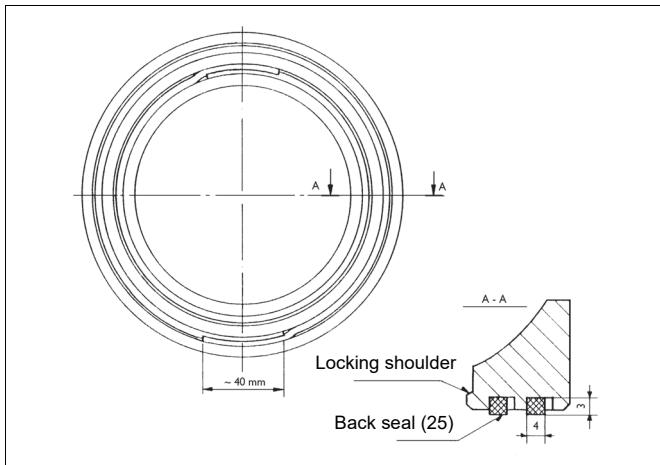

Fig. 11 Mounting the back seal
- Cut the ends of the seal band to give a tight seal against the edges of the groove where the two ends overlap, see Fig. 11.